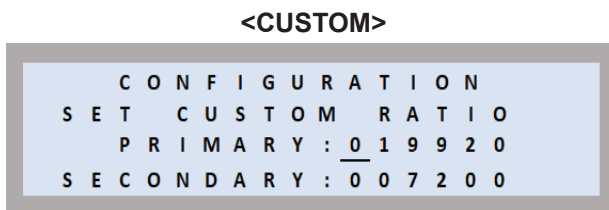

Figure 69
- The Custom option will allow you to set a custom ratio. From the Nameplate Select screen (see Figure 69) press to select the **Custom** option.
- **Setting Primary and Secondary custom ratio values:** The cursor will blink beneath the first Primary digit (see Figure 69). Use and to edit digit. Then use or to cycle through fields and set values for remaining Primary and Secondary digit fields.